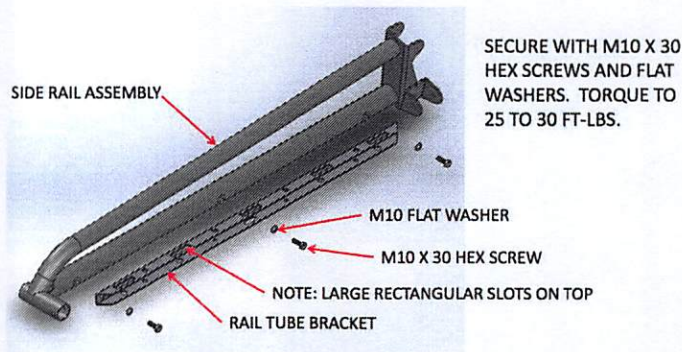

Figure 23: The assembly of the racking tube bracket being attached to the side rail assembly
Step 28: To assemble the side rail assembly you will need (4) M10x30 hex bolts, and (4) M10 washers. Lay the side rail assembly onto the ground and hold the racking tube bracket up to the pre-threaded holes. The large rectangular slots of the racking tube bracket should be facing up. Now secure the racking tube bracket by hand threading the M10x30 bolts and M10 washers into the side rail assemblies. Then torque the bolts to 25-30 ft-lbs. Repeat for other side. Figure 23 shows how to attach the side rail to the racking tube.